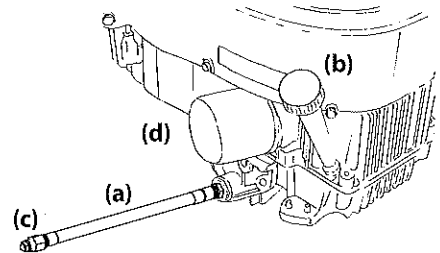

Figure 34
3. While holding the free end of the oil drain hose over the oil collection container, unscrew the square head hose plug (c) from the end of the oil drain hose. See Figure 34. Drain the engine oil into the collection container.